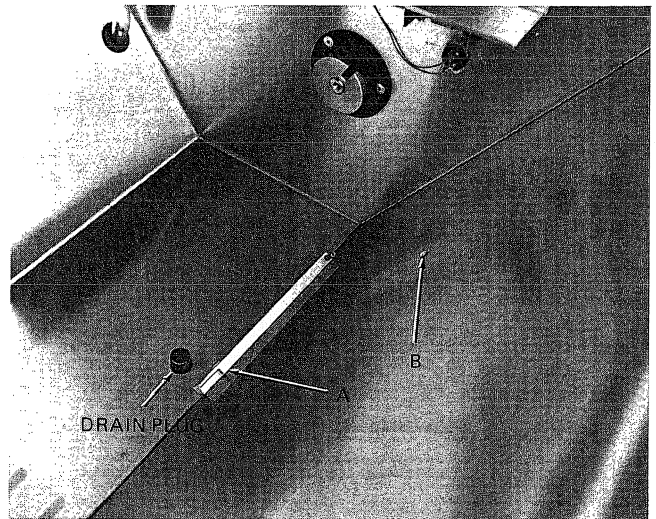

Figure 3
1. Set the microtome down into the cabinet so that it rests against the guide bar, A, Figure 3.
3. While holding the microtome in position (to prevent tipping backward), place the hold-down bolt thru the hole in the front of the microtome base and fasten into cabinet hole, B, Figure 3.